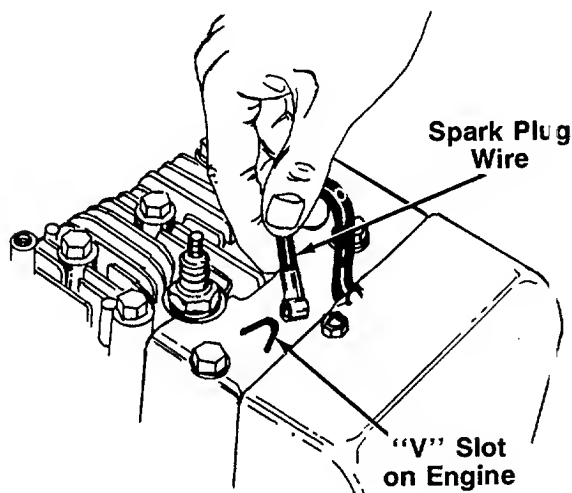

FIGURE 13.
1. Disconnect the spark plug wire from the spark plug to prevent accidental starting. Secure the end of spark plug wire in the "V" slot on the engine. See figure 13.